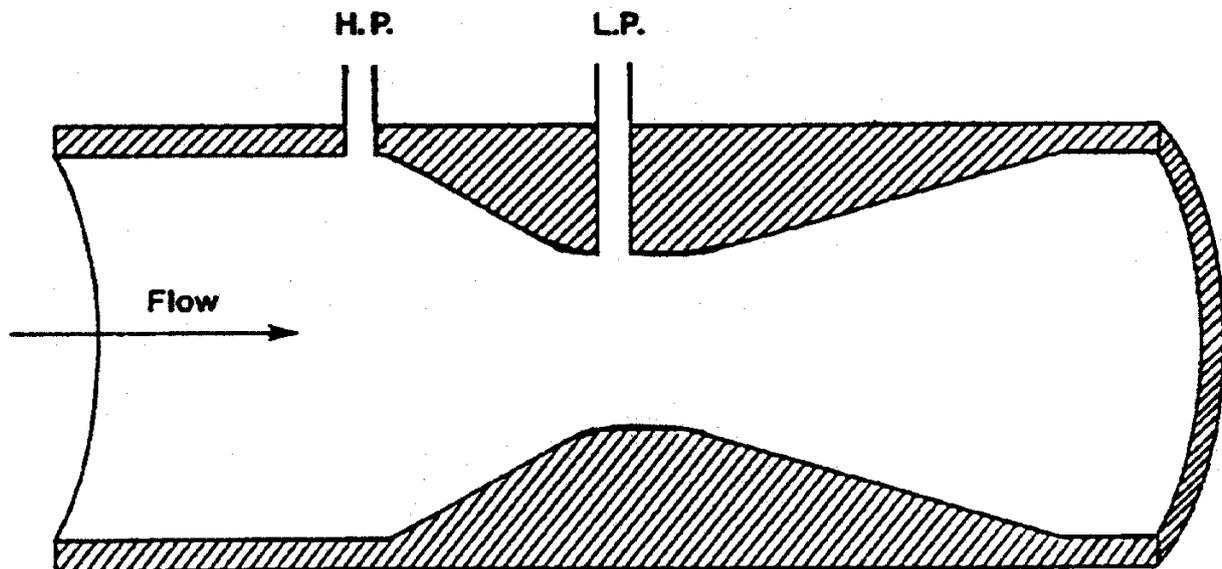

Figure 7: .A Venturi Tube.
- For applications where high permanent pressure loss is not tolerable, a venturi tube (Figure 7) can be used.